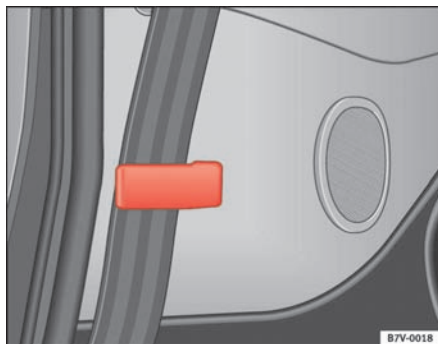

Fig. 20 Belt retainer for outer seats in centre row
- When the belt for the outer seats in the centre row is removed insert the webbing behind the guide of the side trim ⇒ **fig. 20**, in order to lower the backrest without damaging the webbing.